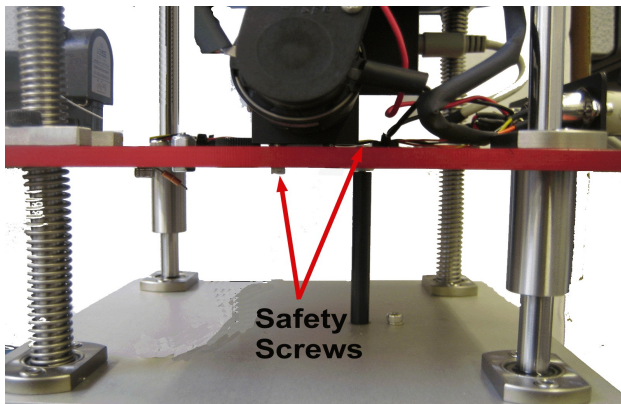
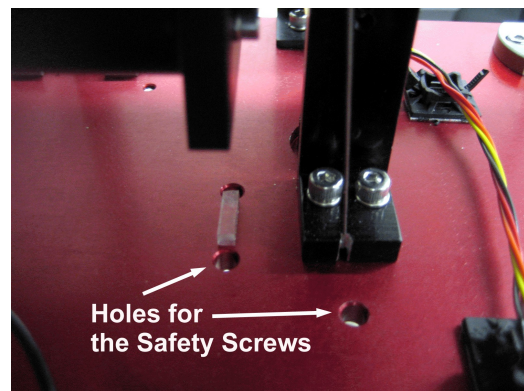

Figure 8: Safety screws that have to be opened before using the Active Suspension plant.
Figure 9: Safety screw holes.
2. Unscrew and take off the three safety screws as depicted with red arrows in Figure 8. The corresponding holes to these screws are shown in Figure 9 for more clarification. One screw is used to connect the rod (Component #28) to the red plate (Component #3) and thus keeps the white and red plates attached to each other. Two other screws connect the red plate to the motor cable holder so that the red and blue plates are attached to each other.